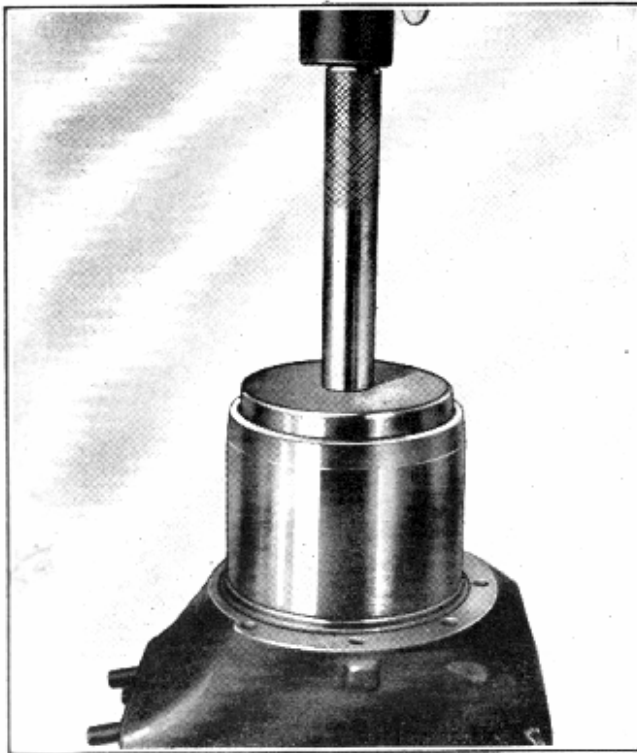

Fig. 22—Installing Outer Bearing Outer Race
- Use Tool No. XG-19851 and Handle No. XG-19854 for the 5" joint and Tool No. XG-19849 and Handle No. XG-19854 for the 6" joint. Press the race into its seat in the knuckle as shown in Fig. 22.